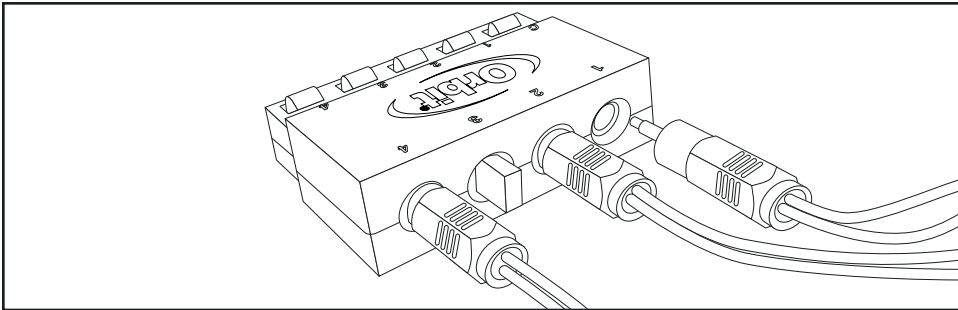

Figure 6: Inserting Valve Jack
Step 8. Insert the wired jack from the valve in each opening and seat firmly. [See Figure 6]